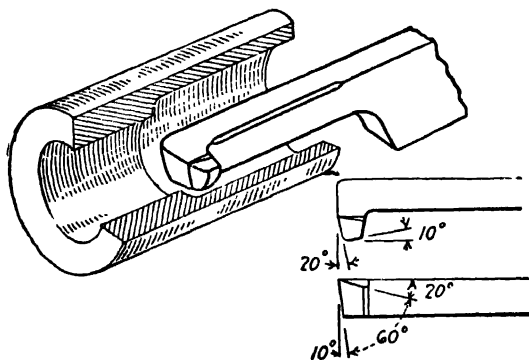

Fig. 15-24. The forged boring tool.
**The Boring Tool.** The boring tool (the part that cuts) is a turning tool held in a bar or holder or forged on the end of the bar (Fig. 15-24). It is ground like a turning tool that cuts from left to right. It has side rake (Fig. 15-25a); a cutting angle of about 60 to 70 deg. (being a metal turning tool), and a rounded cutting point to